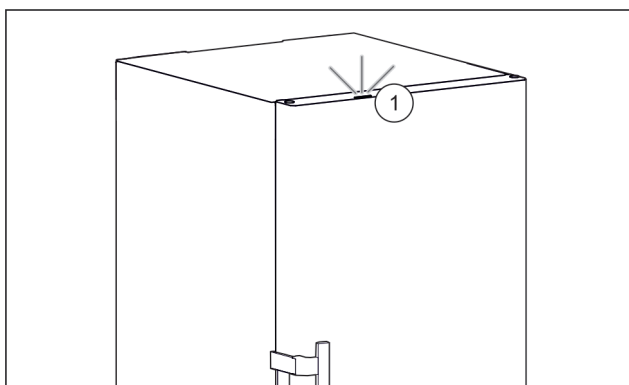

Fig. 60 Active status light when the door is closed
- Status light Fig. 60 (1) is activated.